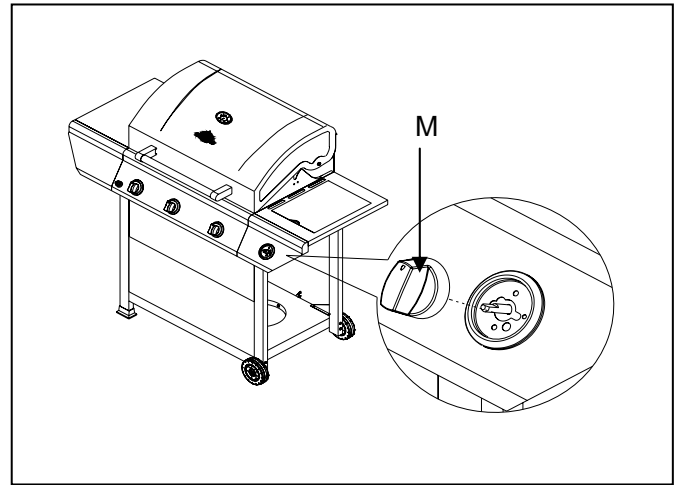

Fig. 16
- a) From underneath the side burner remove two screws which are assembled on the bottom of the side tube burner (D). Open side burner lid and place the Side Tube Burner (U) through the opening. Place the Side Tube Burner (U) tube over the side burner gas valve and make sure Side Burner gas valve is inserted into side burner tube. As shown in Fig.16. Then with two screws secure the side burner from underneath to the Side Burner Shelf (D). As shown in Fig. 16.
- b) Then with two screws secure the side burner from underneath to the Side Burner Shelf (D). As shown in Fig 16.
- c) Connect the ignition wire from Firebox Assembly (A) control panel to the side burner igniter pin from underneath the Side Burner Shelf & Control Panel (D).. As shown in Fig. 16.